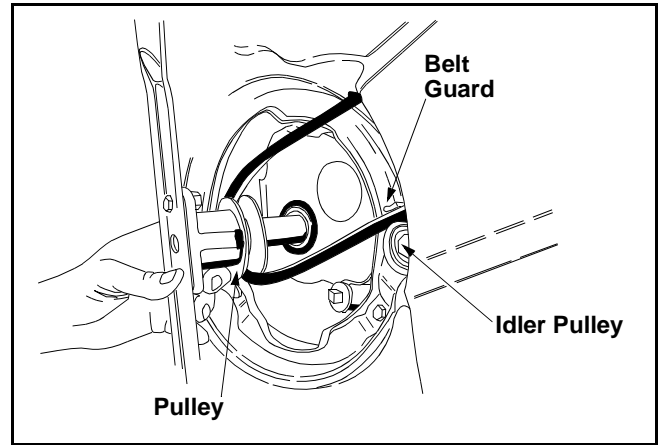

Figure 14
- Loosen the bolt which secures the idler pulley so you can remove the belt from between the idler pulley and the belt guard on the idler pulley bracket. See Figure 14.